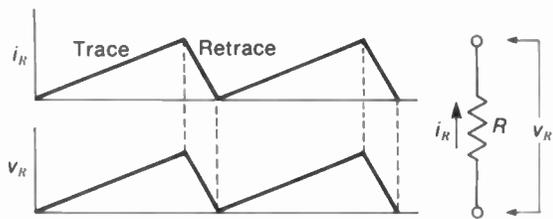

FIGURE 20-28 SAWTOOTH CURRENT  $i_R$  AND VOLTAGE  $v_R$  FOR RESISTANCE  $R$ .
We can make a comparison with the more familiar example of inductance  $L$  in sine-wave circuits. The self-induced voltage across  $L$  produced by changes in current is always  $90^\circ$  out of phase with the current through  $L$ . This concept of phase angle, however, only applies to sine waves. The corresponding idea in non-sinusoidal circuits is that inductance changes the wavelshape of the voltage, compared with the current. Similarly, capacitance  $C$  can produce a  $90^\circ$  phase angle with sine waves, but the wavelshape is changed in nonsinusoidal circuits. For resistance  $R$ , however, there is no change in phase angle or wavelshape between the current and voltage waveforms. More details of wavelshaping with  $RL$  and  $RC$  circuits are described in Appendix D, on  $RC$  Time Constant. However, the main facts that apply to deflection circuits are illustrated in Figs. 20-28 to 20-31.
**Sawtooth  $i_R$  and  $v_R$  for resistance.** Figure 20-28 shows that with sawtooth current through  $R$ , the voltage across  $R$  also has the sawtooth wavelshape. Resistance does not concentrate the magnetic field like an inductance, or store electric charge like a capacitance. Therefore,  $R$  does not have any reaction to a change in voltage or current.